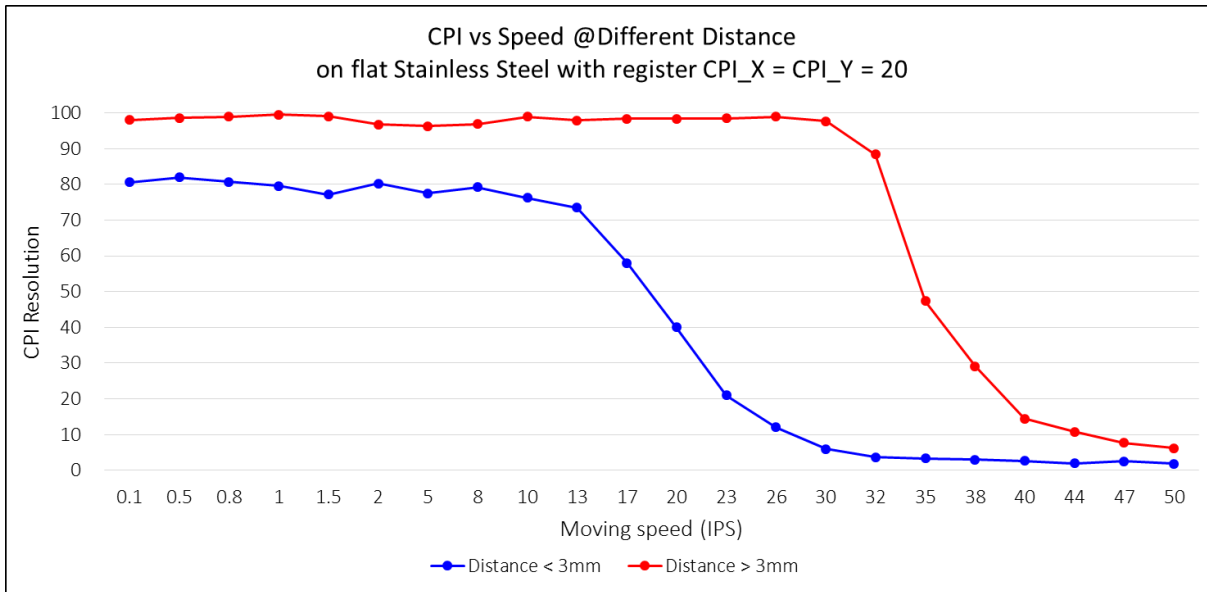

Figure 8. CPI vs Speed @Different Distance
2. When the distance to tracking surface is < 3mm, the reported CPI resolution could be lower than the CPI value at ≥ 3 mm. Please refer to Figure 8 below.